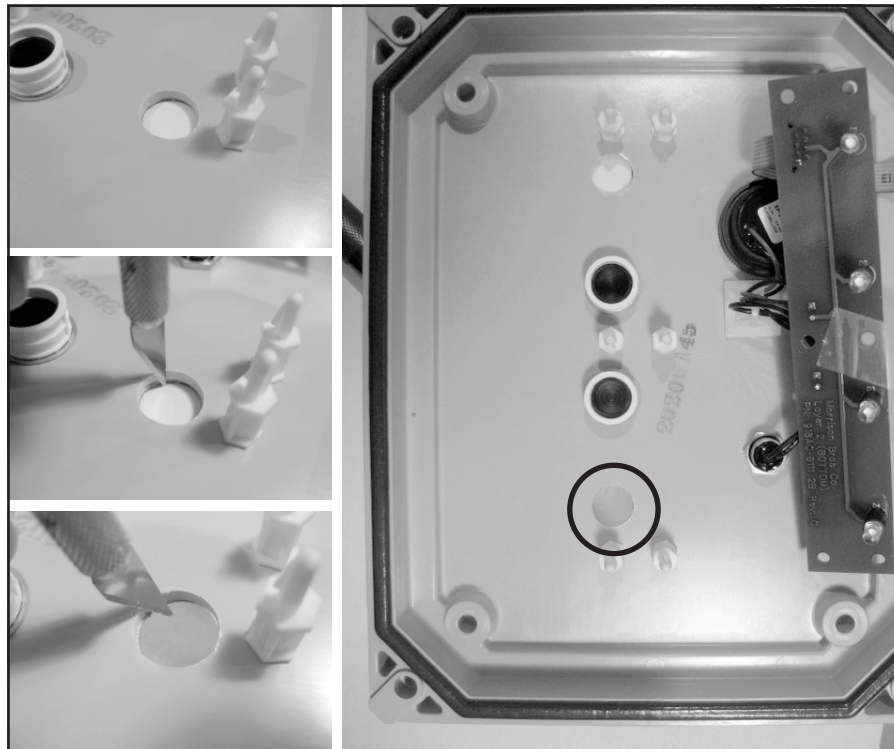

Figure 29 - Cutting the hole in the overlay (Channel (3) shown here)
b. Working from the back and using a very sharp X-Acto knife, or equivalent, cut around the perimeter of the Indicator Hole as shown in Figure 29.